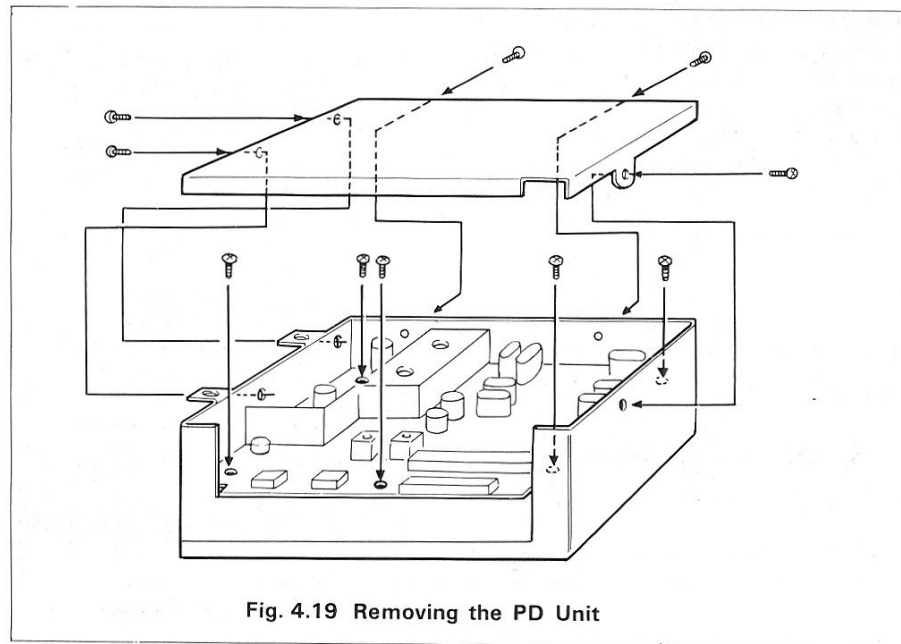

Fig. 4.19 Removing the PD Unit
2. Remove the PD unit "X50-1340-01" (Fig. 4-19).